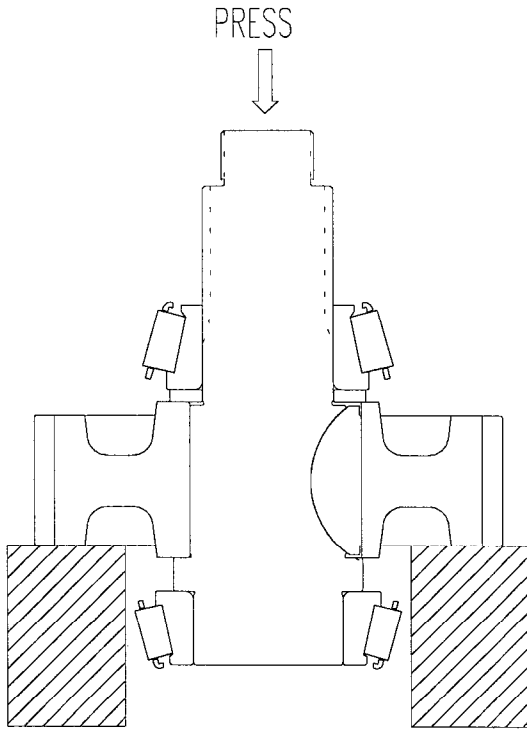

Fig. 31
2. Place the shaft assembly in a press such that the rear of the gear is supported and the press arbor bears against the threaded end of the shaft. Remove the front bearing cone, spacer and gear. Remove the shaft key only if necessary. See Fig. 31.